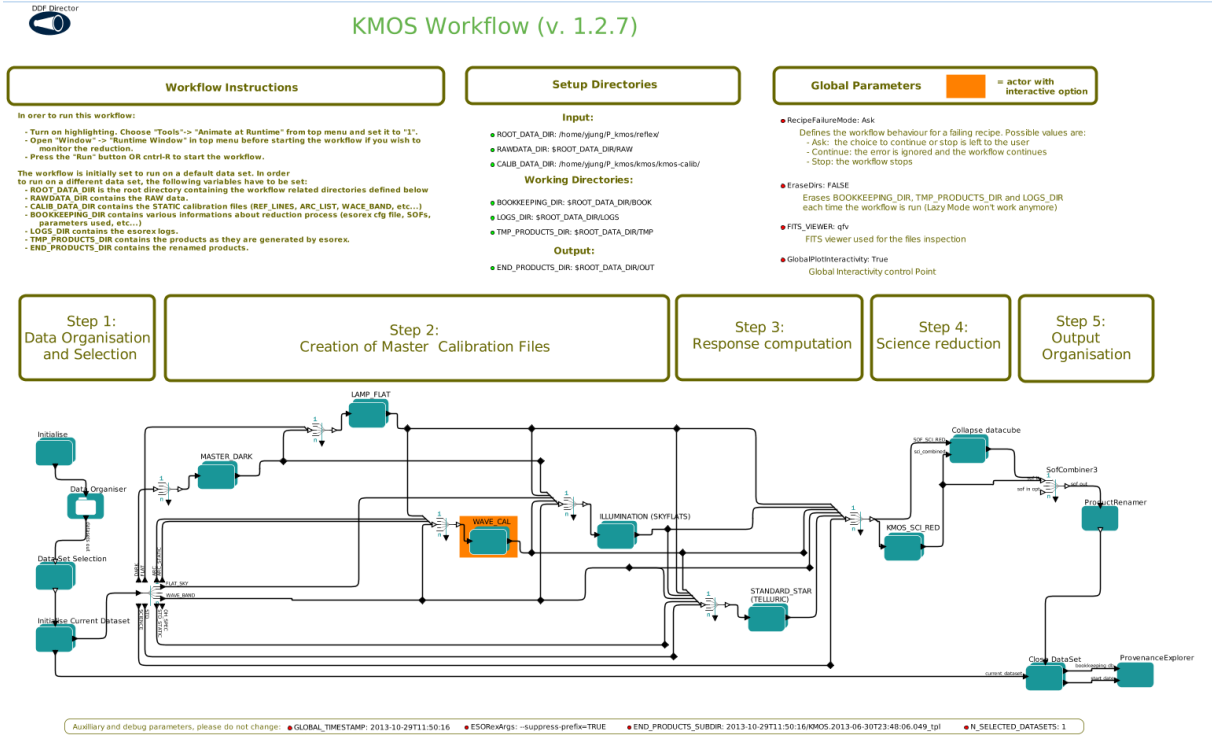

Figure 4.2: KMOS workflow general layout.
2. Now open the KMOS workflow by clicking on **File** -> **Open File**, selecting first `kmos-1.3.0` and then the file `kmos.xml` in the file browser. You will be presented with the workflow canvas shown in Figure 4.2. Note that the workflow will appear as a canvas in a new window.